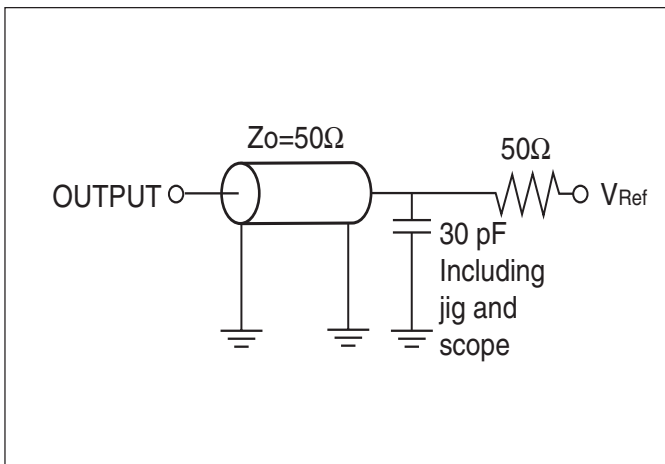

Figure 1a.
1. Test conditions assume signal transition times of 3ns or less, timing reference levels of 1.25V, input pulse levels of 0.4V to VDD-0.3V and output loading specified in Figure 1a.